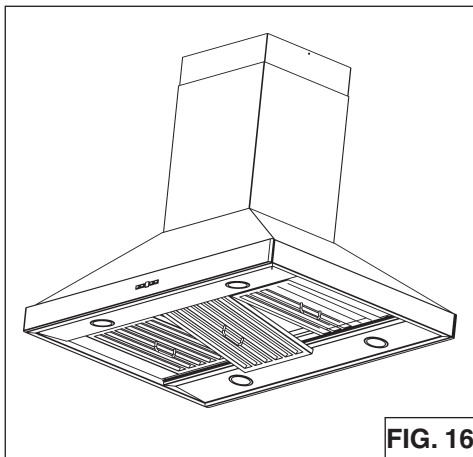

FIG. 16
1. To remove the GREASE filter, (Fig. 16) push the filter towards the front so that it clears the filter channel, then pull down on the handle to disengage the filter from the hood. Tilt the filter downward and remove.